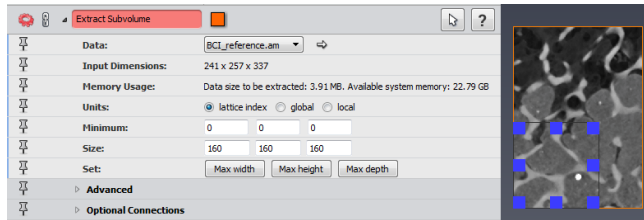

Figure 19.2: Extract Subvolume Module Properties
- Extract a region of interest in the bone-cement using an *Extract Subvolume* as shown in Figure 19.2